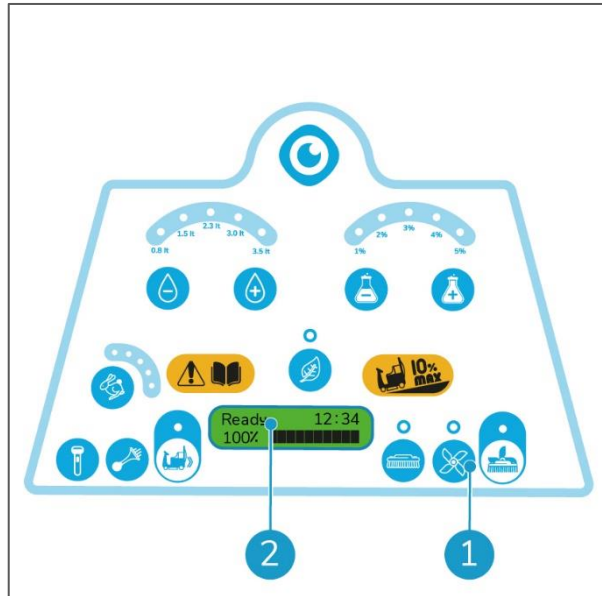

Figure 32
2. Turn the ignition key to position "I". After a few seconds the text "Ready" appears on the display (Figure 32, pos 2).
3. Press the push button (Figure 32, pos 1). The squeegee moves to its lowest position.
10. After a few seconds the text "Ready" appears on the display (Figure 32, pos 2).